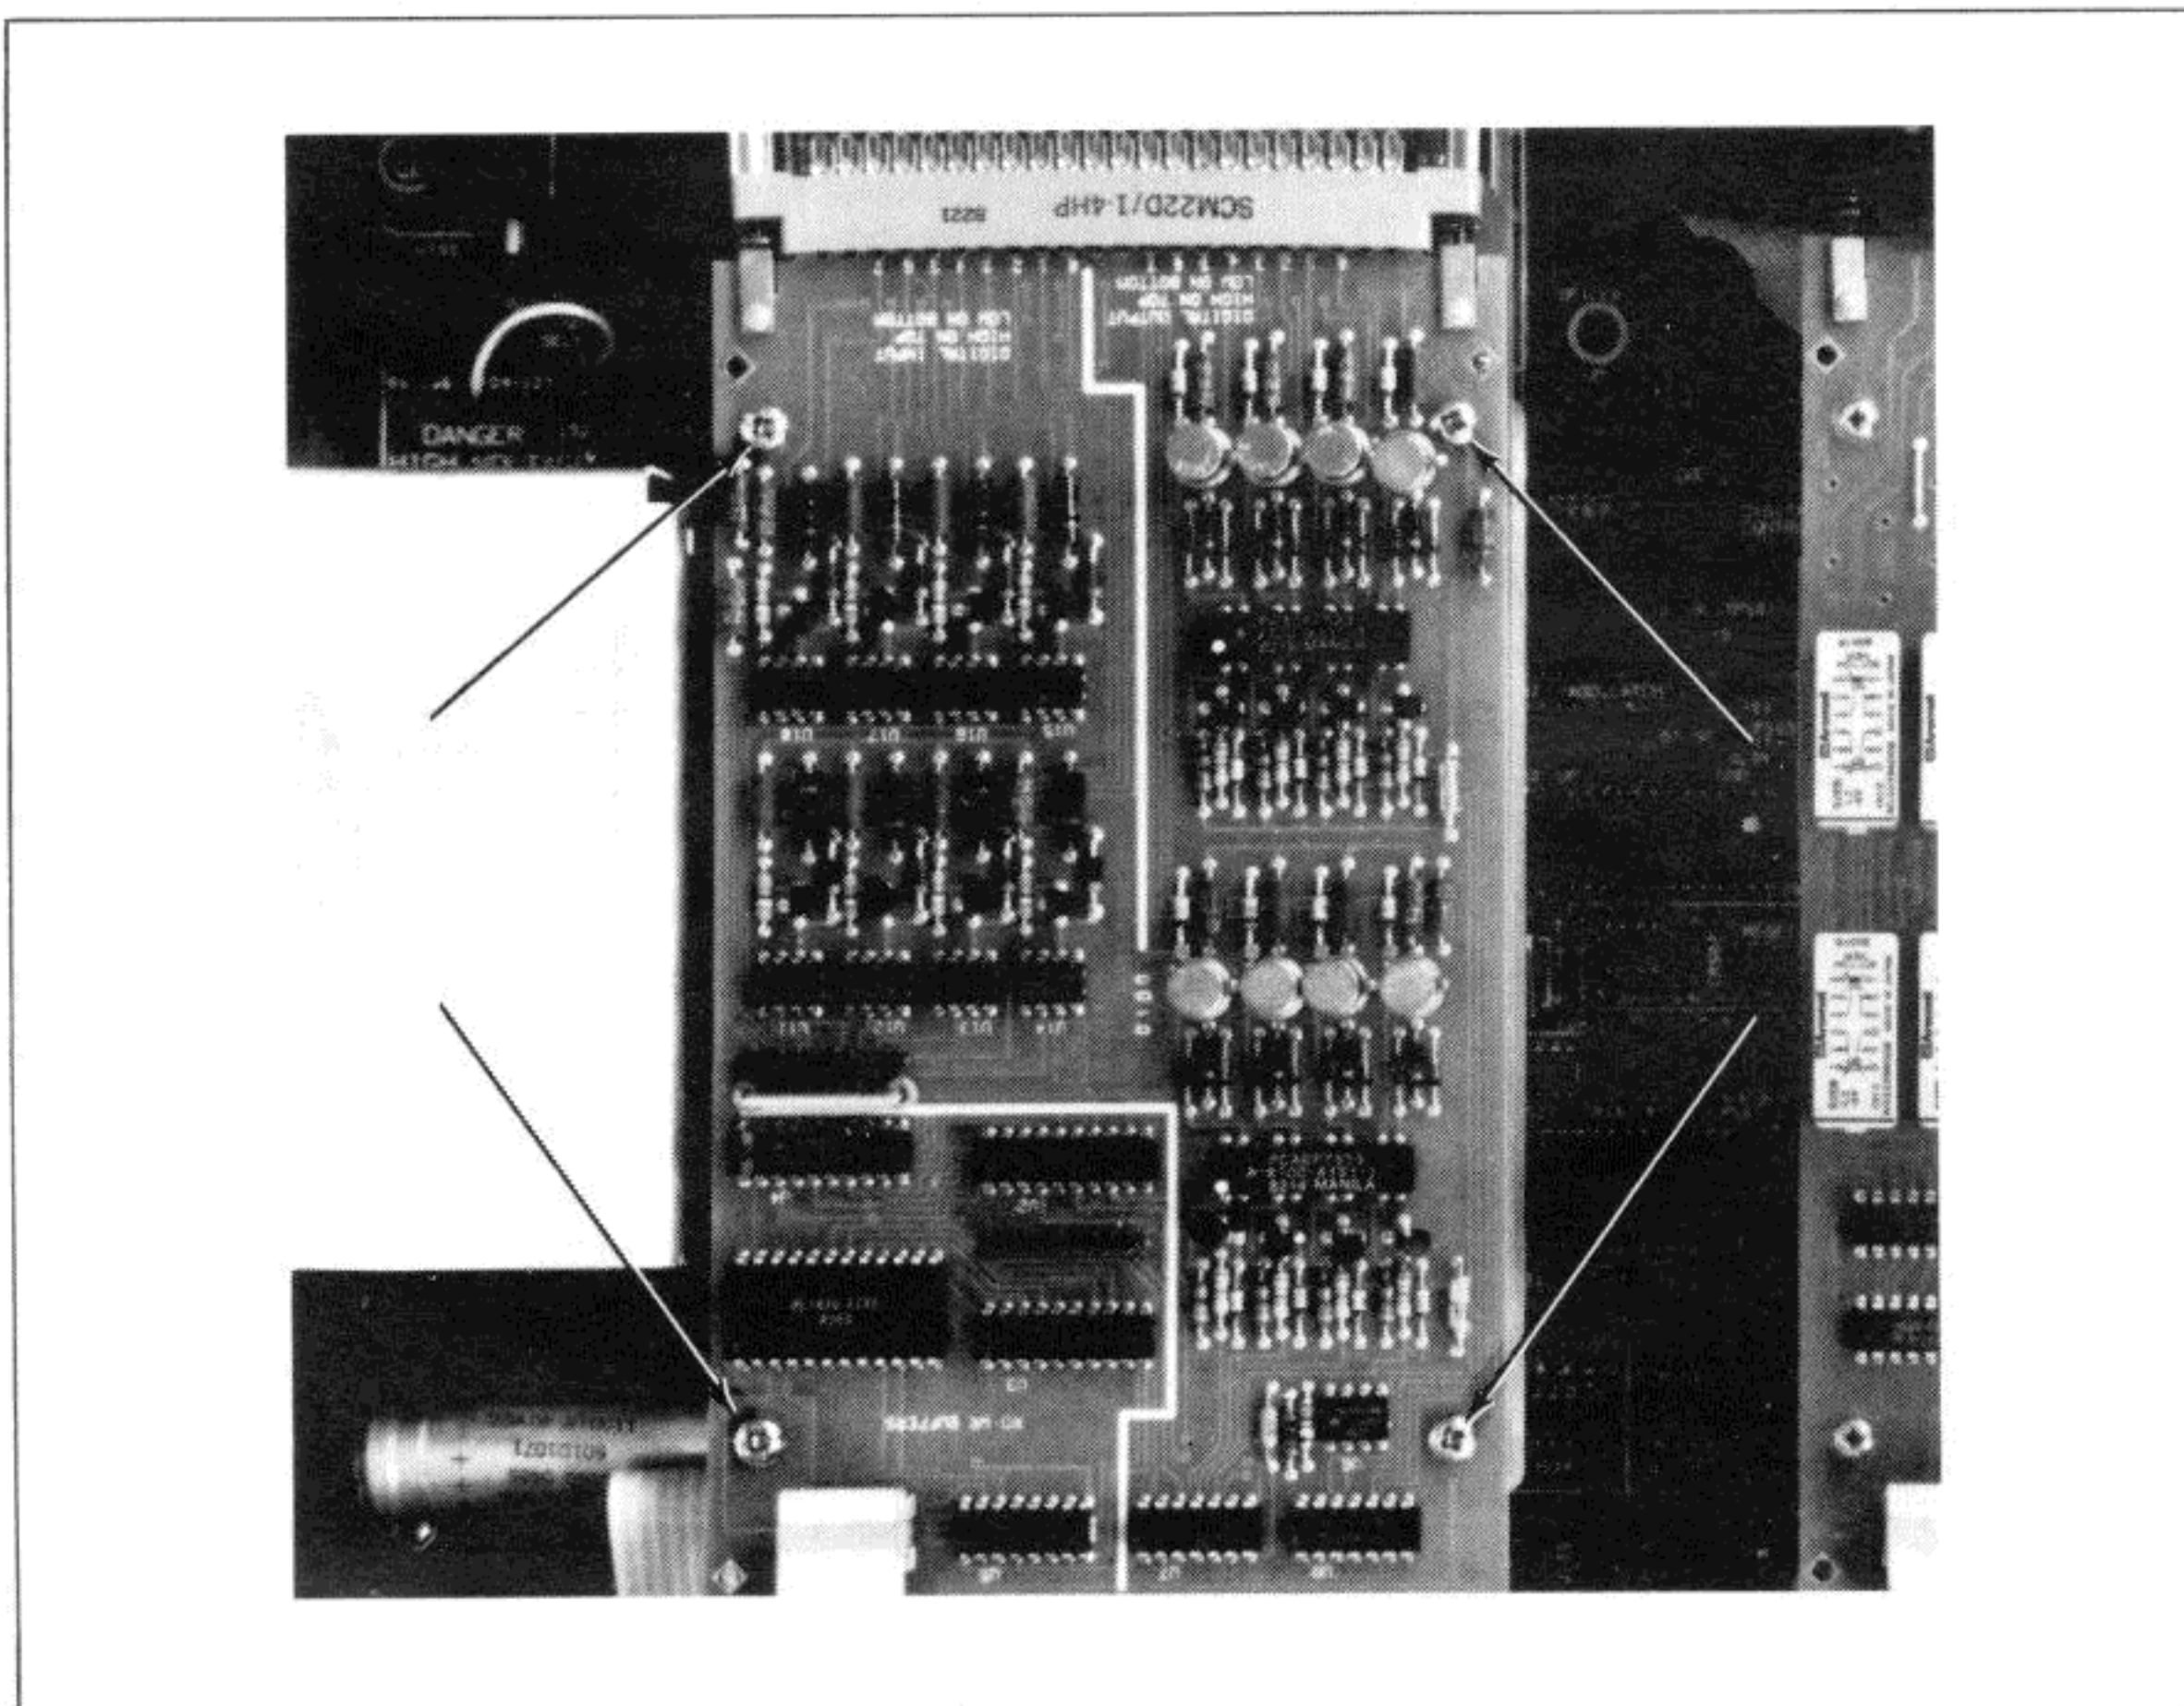

Figure 4-8-2. Removing the Slot 2 Option
e. Refer to Figure 4-8-2. Unplug the ribbon cable connector from the option in slot 2. Lift the connection straight up to avoid bending any pins. If the option is a Multiplexer Assembly, also unplug the 4-wire VM input cable. If the option is a Digital I/O or Breadboard Assembly, it will not have the 4-wire VM input cable.